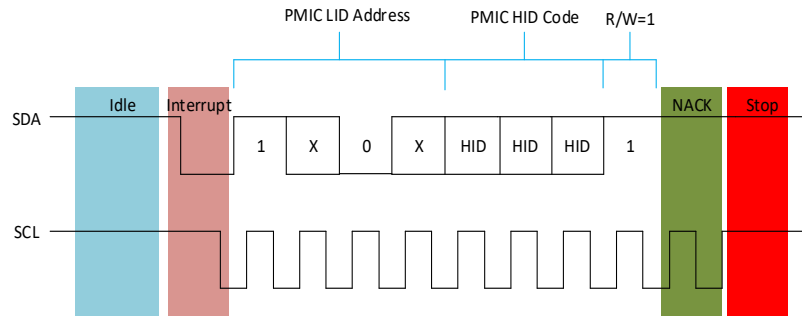

Figure 40 — PMIC Requests Interrupt; Host NACK followed by STOP
- The Host sends NACK on the 9th bit as shown in Figure 40 followed by a STOP command. In this case, the PMIC device does not transmit the IBI payload and waits for the next opportunity to request an interrupt. At this point, though Host sent an NACK, it does have a knowledge of which PMIC device sent the IBI request. The PMIC device retains the IBI Status flag Table 106, Register 0x0A [1] = '1' and Pending Interrupt Bits [3:0] = '0001'.